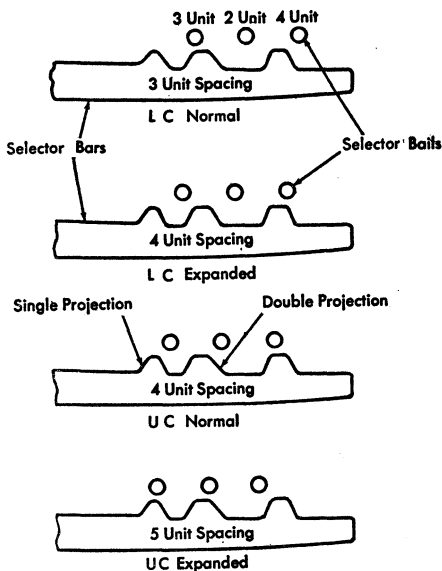
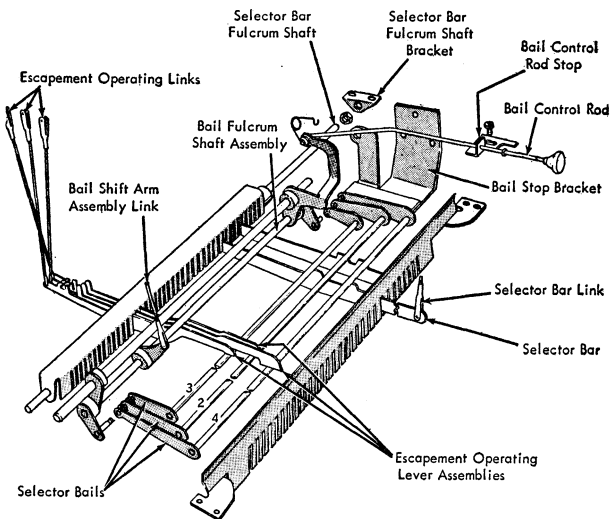

Figure 2. Upper Case and Lower Case Selector Bail Positions
Figure 3. Selection Mechanism
When a cam is operated, its selector bar is raised to operate a bail or a combination of bails. The projections on a selector bar provide the spacing needed for each type face (Figure 2).
Remove the two lock nuts from the right end of the selector-bar fulcrum shaft. Loosen the collars that position the rear selector-bar guide-comb assembly and the escapement operating levers. Then the selector-bar fulcrum shaft may be moved left or right (Figure 3). Use the six-inch screwdriver (medium size) or a similar tool as a follower to drop the desired selector bar.
SELECTOR-BAR FULCRUM-SHAFT BRACKETS (Figure 3). Move these brackets so that some of the pointed selector-bar projections are directly underneath the center of the bails (Figure 2). To be sure that the selector-bar fulcrum shaft is parallel, check this adjustment on both ends of the bails.
SELECTOR-BAR LINKS. With the bail assemblies resting on their stop brackets, adjust the selector-bar links so that there is $\frac{1}{64}$ " clearance between the selector bars and the bail assemblies (Figure 3).
These assemblies transmit the motion from the selector bars to the escapement operating levers. From front to rear, the bails provide four, two and three units of escapement (Figure 3). As the bails are moved by the action of the shift mechanism or the bail control rod, different units of escapement may be obtained.
2. Shift the basket to the upper-case position and place the bail control rod in the expand position. Adjust the bail-shift-arm-assembly link (Figure 3) so that the three-unit bail is directly over the rear-most pointed projection on the selector bars.
3. Shift the basket to the lower-case position and push the bail control rod in the non-expand position. Adjust the bail control-rod stop (Figure 3), located on the key-lever spring-support plate, so that the four-unit bail is directly over the pointed projection on the front end of the selector bar for the letter "W."